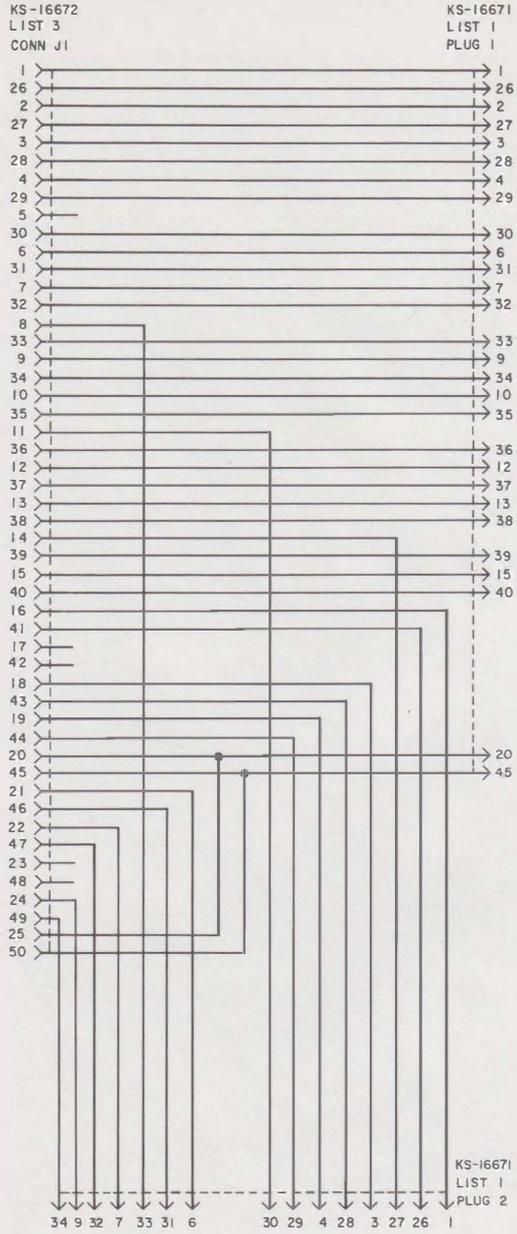

Fig. 18—KS-19252, List 5 3-Way Bridging Adapter, Schematic
- Each adapter consists of a removable cover with spacer inserts and a base section containing interwired (bridged) 50-contact plug(s) and/or connector(s). The inserts may be removed and stored to accommodate deep-hood plugs. The plugs and/or connectors are wired standard point-to-point (except List 5, Fig. 18) at the factory and cannot be changed. (Refer to Table B.)
- The KS-19252 L5-type adapter (Fig. 18) is used in multiple installations of 2025 data sets to connect 830- or 2830-type telephone sets to 41A data mounting.